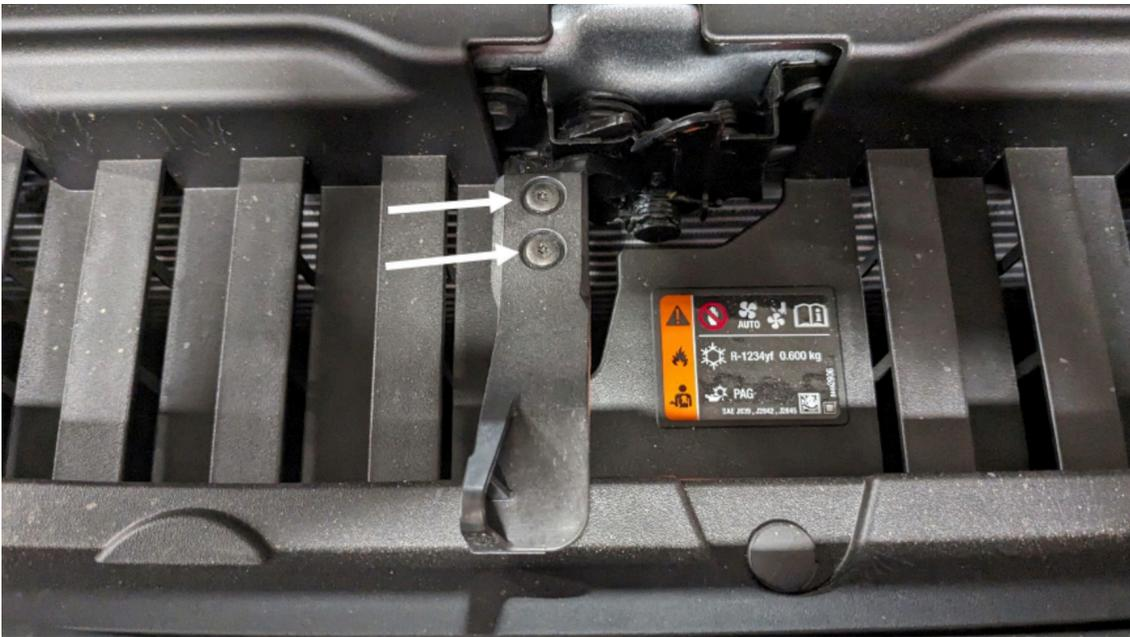

Figure 1
1. Using a T15 Torx bit remove the two (2) screws in the hood latch handle to remove it. Figure 1